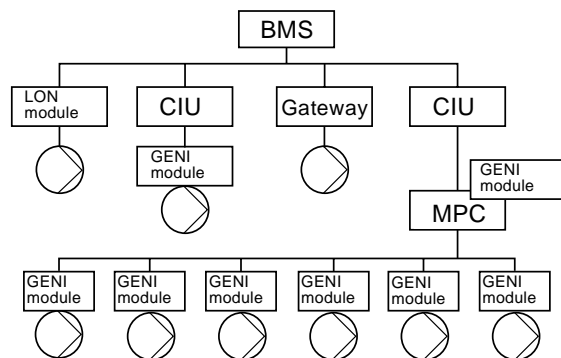

Fig. 17 MAGNA 32-120, 40-120, 50-60, 50-120, 65-60, 65-120 in BMS systems
- Grundfos MAGNA (D) 32-120, 40-120, 50-60, 50-120, 65-60, 65-120. See fig. 17.